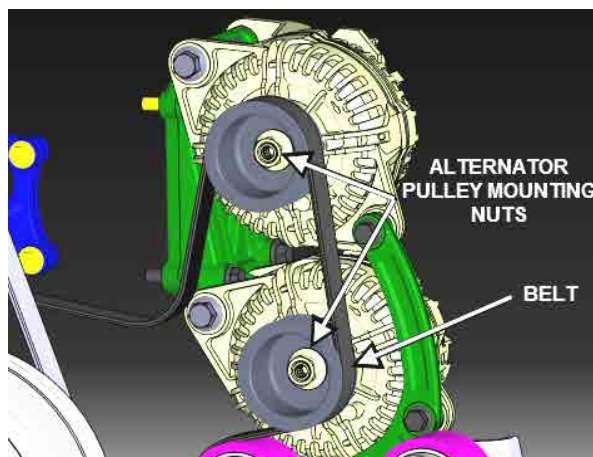

FIGURE 3
2. Remove the alternator belt (FIGURE 3).
3. Unscrew the alternator pulley mounting nut (FIGURE 3). **Keep nut for reuse** if nut provided with the alternator is not a flange nut.
4. Remove the alternator pulley (2 pulleys) (FIGURE 3).